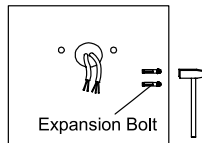

FIGURE 8
2. Knock the expansion bolts into the wall (FIG 8)